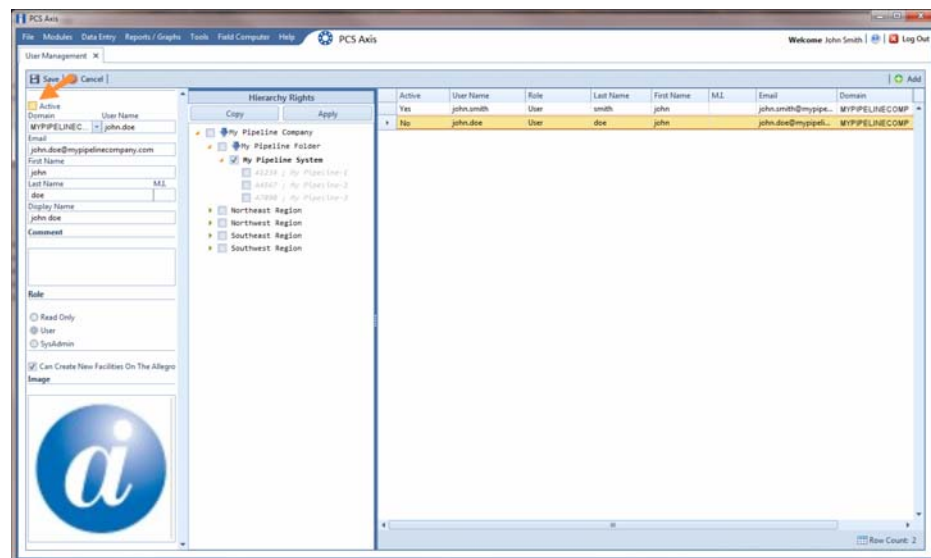

Figure 4-2. User Account Status
- 1 Click **Tools** > **User Management** (Figure 4-2).
The **Active** property setting changes from *Yes* to *No* indicating the user account is now inactive (Figure 4-2).